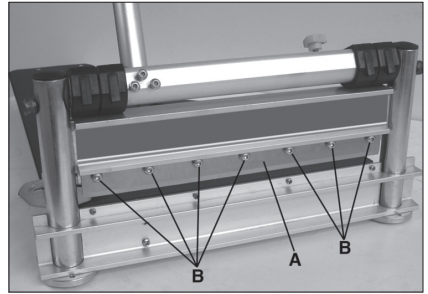

FIGURE 13
1. To remove the blade (Fig. 13-A), remove the seven allen head screws (Fig.13-B) using the supplied hex. key. Carefully remove the blade.